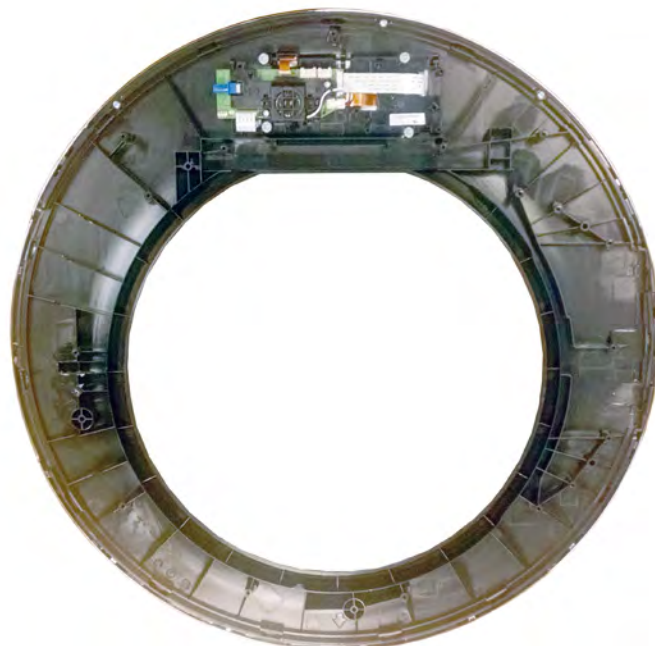

Figure 7 - Outer Door/HMI Assembly
9. Reverse procedure to reassembly all parts onto the new Outer Door/HMI Assembly (see Figure 7).